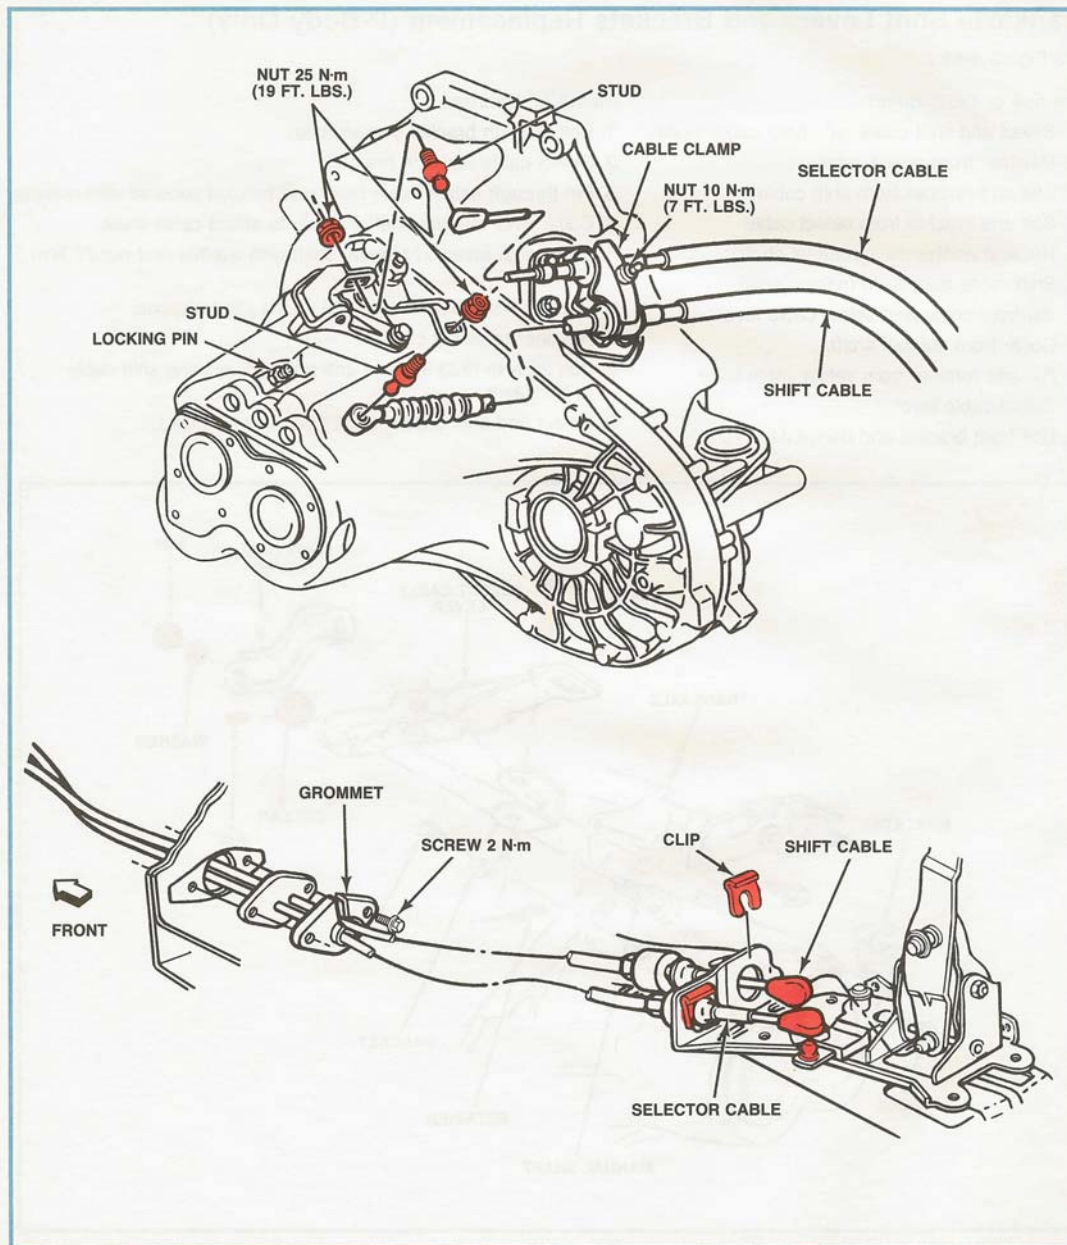

Figure 4-12, Shift Cables.
See Figure 4-12 ...
3. Remove cable ends from ball studs of shifter by twisting a large flat blade screwdriver between nylon socket and shifter lever. Do not pry the socket off stud using the cable end for leverage (Figure 4-12).